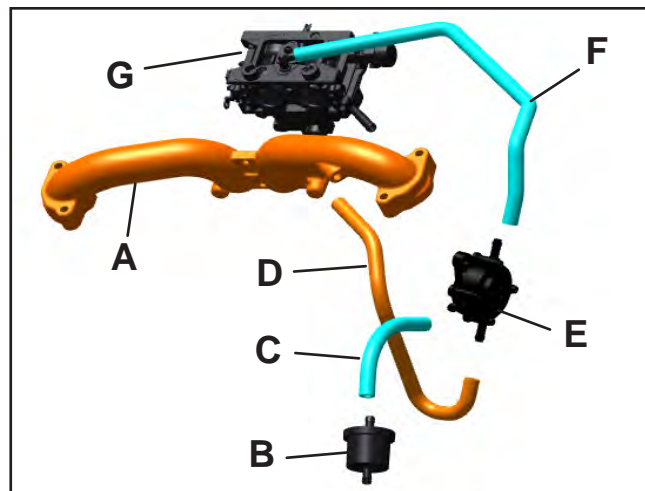

Figure 1
**Fuel Flow:** The fuel flows from the fuel tank through the fuel filter, to the fuel pump and continues to the top of the carburetor. When the carburetor float drops, the needle opens and the fuel flows into the bowl until the float rises and closes the needle. Air moving through each venturi creates a low pressure. Atmospheric pressure pushing down on the fuel in the carburetor bowl pushes fuel up the nozzles and into the air stream. The air stream, mixed with fuel droplets, continues through the intake pipe into the combustion chamber (Figure 1).